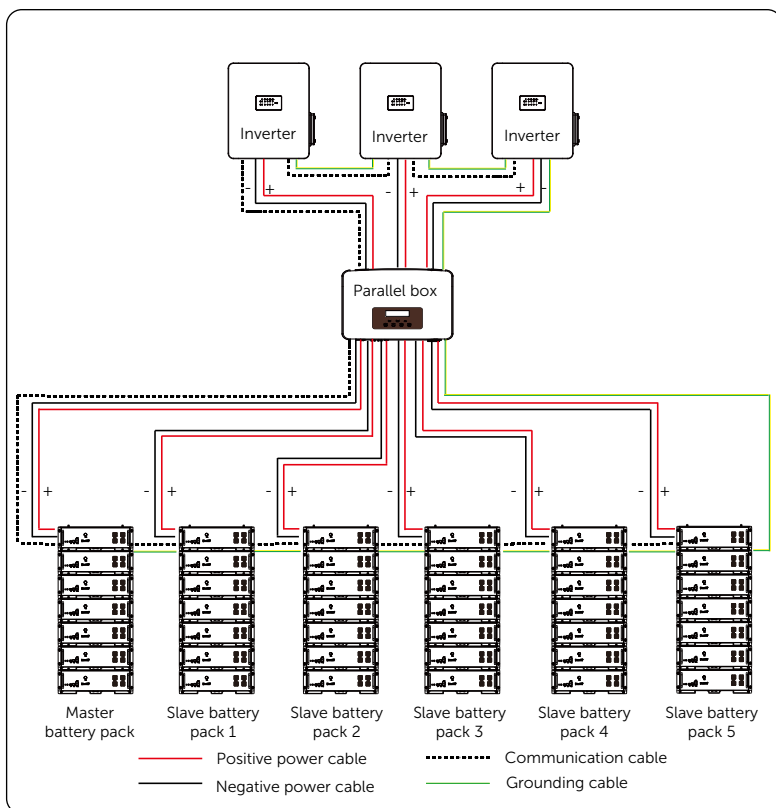

Figure 8-1 Wiring Diagram for Parallel Connection
- For diagram after finishing wiring, please refer to "Figure 8-1 Wiring diagram of parallel connection"